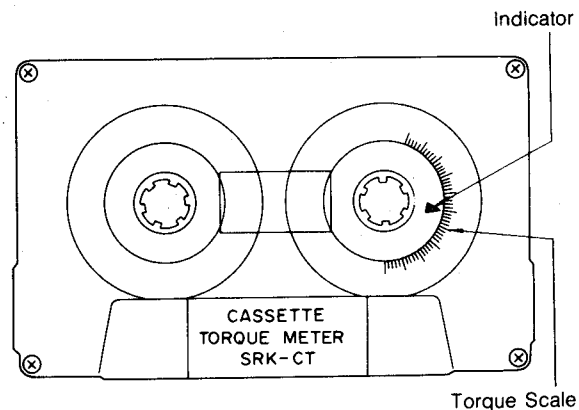

FIG. 13
4. Read "►" mark of indicator on take-up side, as shown in Fig. 13.